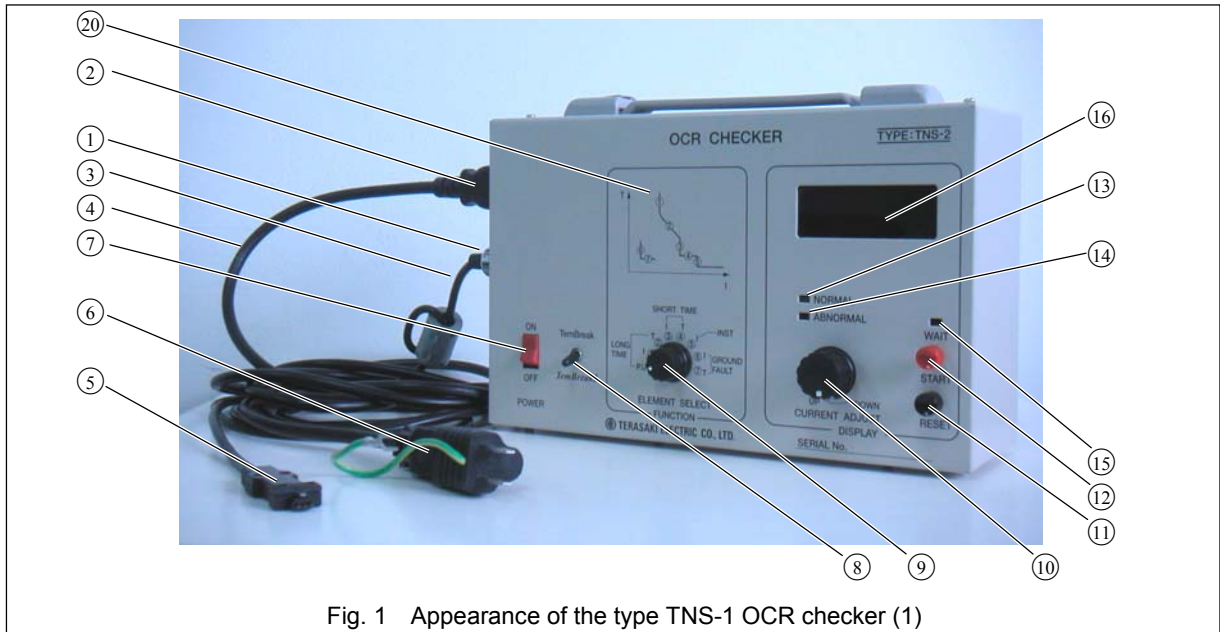

Fig. 1 Appearance of the type TNS-1 OCR checker (1)
Parts names and functions of the OCR checker are given below. Figs. 1 and 2 show the appearance of the OCR checker.
- 1) Press the power switch of the OCR checker to turn on the power. See Fig. 1.
- 2) Press the reset switch. "O" will be indicated on the display. See Fig. 1.
- 2) Set the element selector switch to the LONG TIME-P.U. ① position. See Fig. 1.
- 3) Press the start switch to start energization. See Fig. 1.
- 4) Turn the current adjusting knob clockwise to increase the current until the indicator LED for the breaker OCR turns on. See Fig. 1.
- 5) Turn the current adjusting knob counterclockwise to decrease the current until the LED turns off. See Fig. 1.
- 8) After completion of the test, turn the current adjusting knob to the MIN position without delay. See Fig. 1.